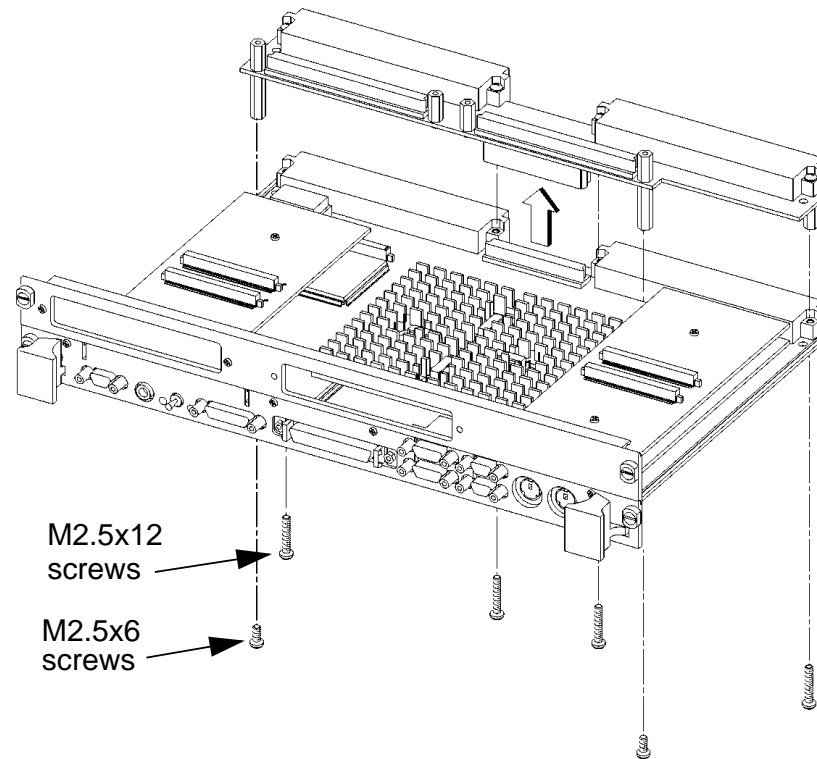

Figure 2-2 **Installing the GSC Expansion Kit**
- 1 Place the adaptor fixture so that you line up the four M2.5x12 screw holes that flank the DIN connectors. See Figure 2-2.